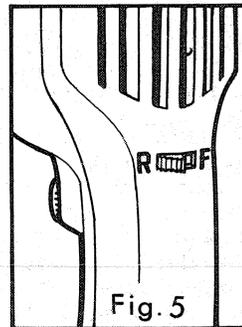

Fig. 5
**REVERSING SWITCH (Nos. 7054, 7154 Drills only)** For removing screws or easing drill bits out of tight holes, slide the Reversing Switch, Figure 5, toward "R" to reverse the drill motor. The trigger switch should be released to the "OFF" position before moving the reversing switch. After any reversing operations, return switch to the forward, "F" position.